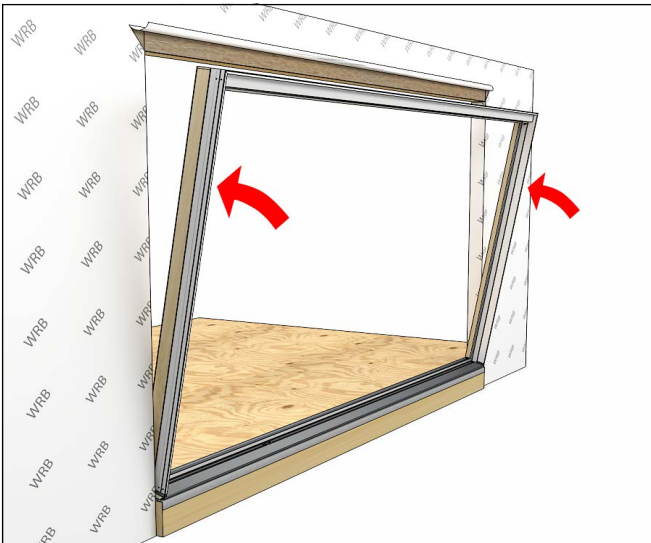

Figure 11
- 2. If applicable, attach the head jamb nailing fin, then install centered frame into rough opening. See Figure 11.